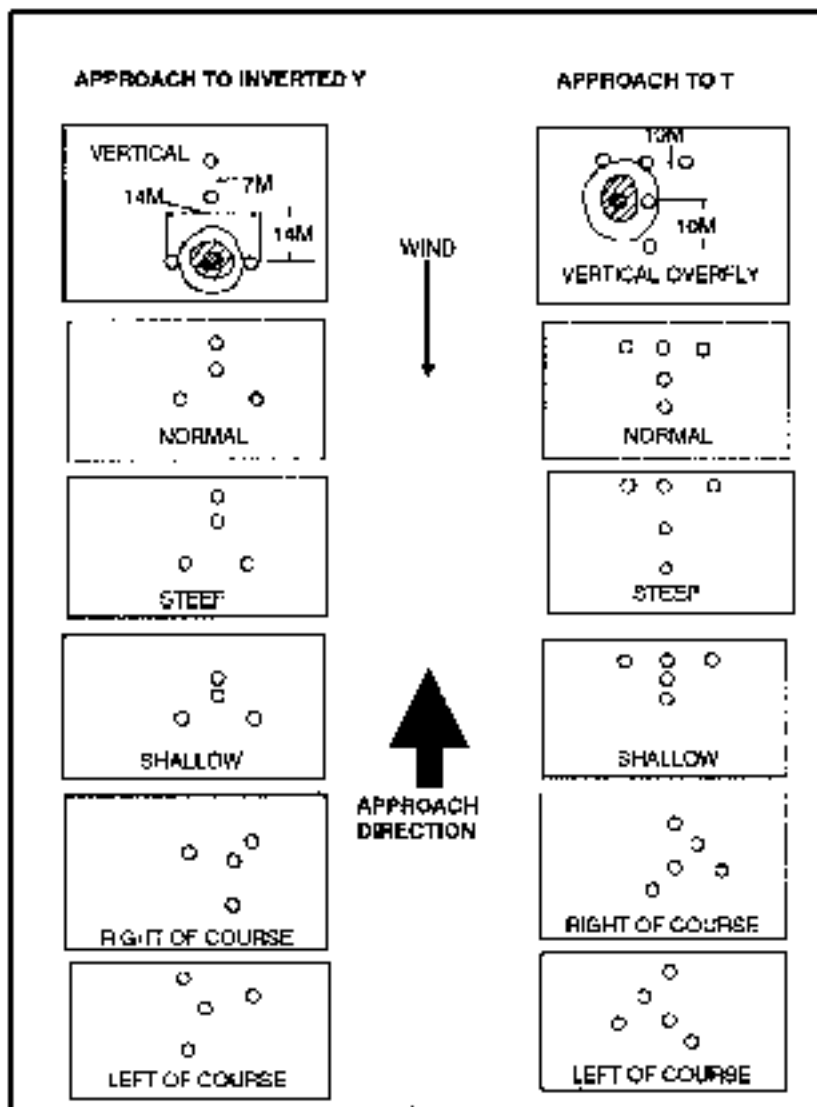

Figure 4-10. Lighted night landing symbols as seen by the pilot from different approach angles.
a. At night, lights of different colors may be used to designate different helicopter sites or to separate flights within a larger formation. Alighted T or inverted Y indicates the landing point of the lead helicopter of each flight and the direction of approach (Figure 4-10). Additional lights are provided for touchdown points of other helicopters in the flight. Helicopters should land with the right landing gear or skid just to the left of the light. (Red lights are avoided because they mark obstacles.)